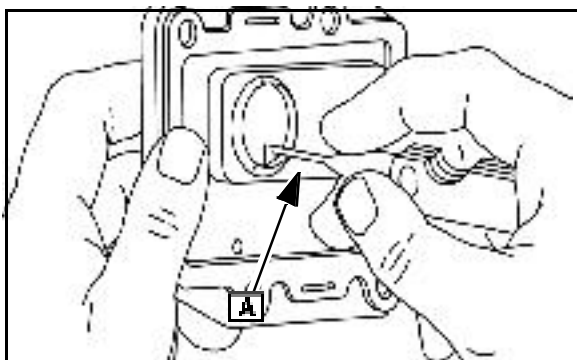

Fig. 32
1. Check the breather valve in the cover with a **0.045 in. (1.14 MM.)** wire gauge. It should *not* enter the space between the disc and the cover body ([A] Fig. 32).